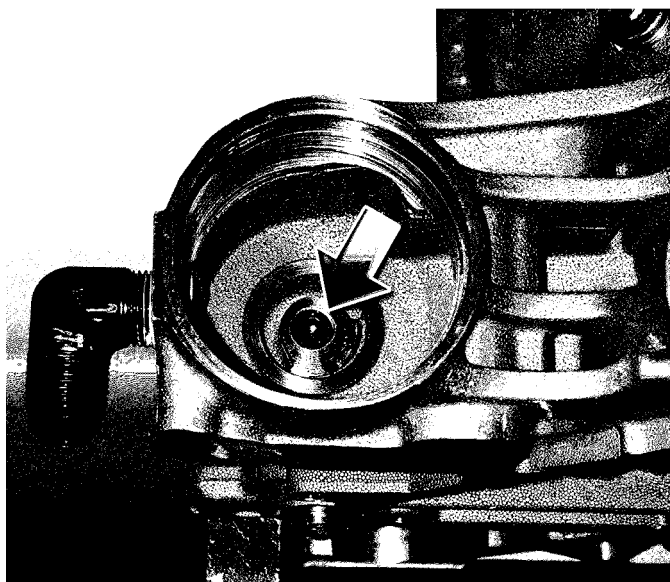

Figure 9
- The factory oil bypass is tapped to $\frac{1}{4}$ pipe thread and plugged (Fig. 9).